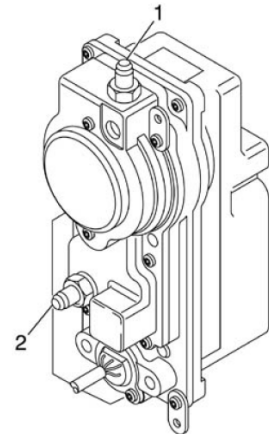

FIGURE 17
24. Connect the coolant lines to the actuator and tighten the fittings (FIGURE 17).